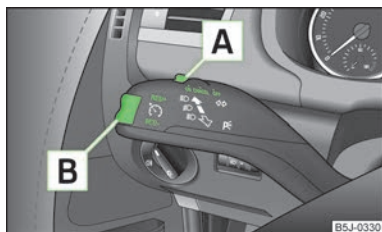

Fig. 84
- Turn the switch » Fig. 84 into the **ON** position.
- Press the rocker button » Fig. 84 on page 84 » page 84 into the **RES** position.
- The stored speed can be **reduced** by pressing the rocker button » Fig. 84 on page 84 into the position **SET**.
The cruise control system is **temporarily switched off** by pressing the switch » Fig. 84 on page 84 into the spring-tensioned position **CANCEL** or by depressing the brake or clutch pedal.
- Turn the switch » Fig. 84 on page 84 into the **OFF** position.